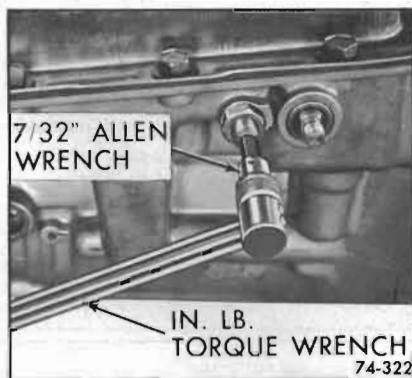

Figure 00-22—Tightening Low Band Screw
1. Adjust low band adjusting screw to 40 in. lbs. See Figure 00-22.